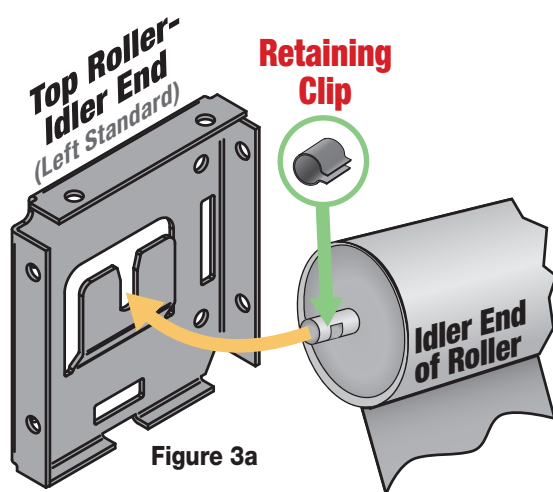

Figure 3a
1. Install the top motorized take-up roller assembly. Place operator end into its endcap, then slide notched pin into idler endcap and attach retaining clip (Fig. 3a).